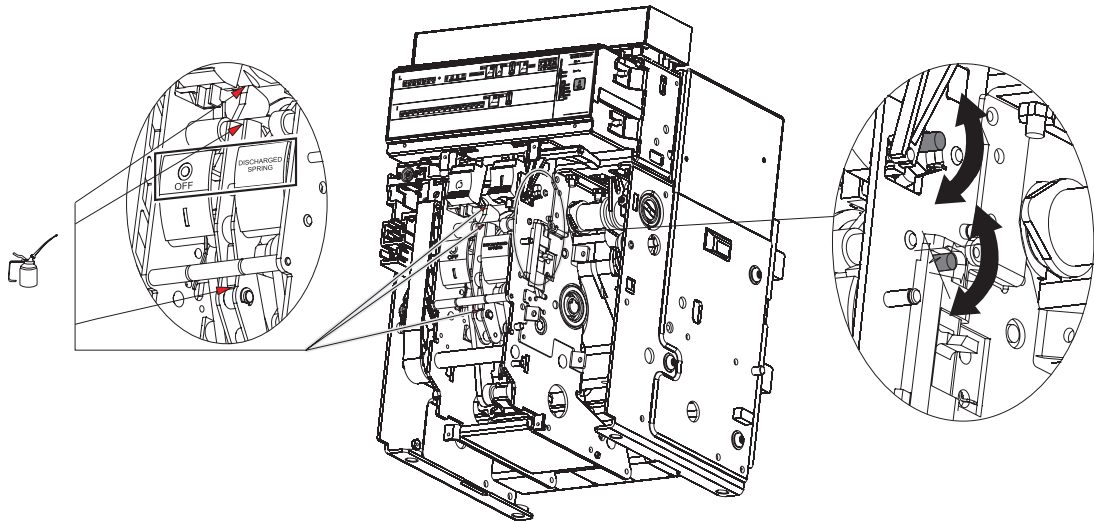

Fig. 38
- Clean the points indicated in figure 38. Use a cleaning product such as Henkel's 273471 or equivalent if there is a heavy coating of dirt.
- Lubricate the opening and closing latches and the shafts in the points indicated in figure 38 with MOBILGREASE 28 (EXXON MOBIL).